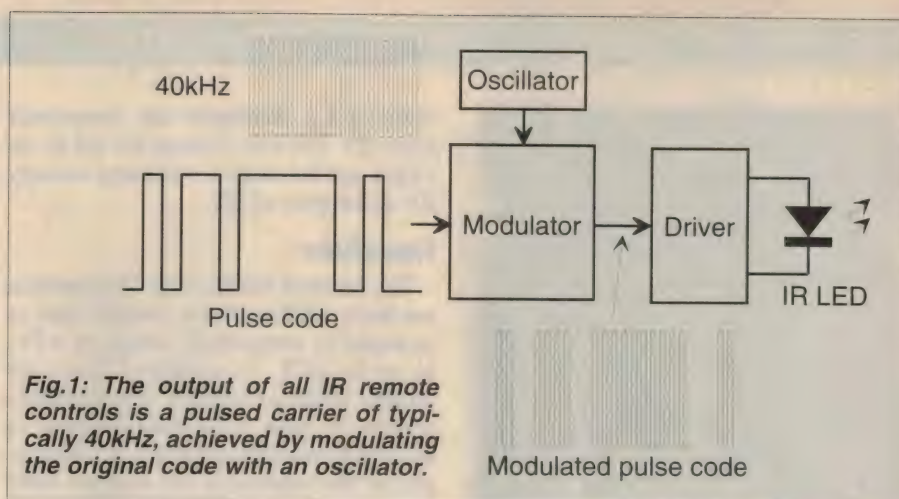

Fig.1: The output of all IR remote controls is a pulsed carrier of typically 40kHz, achieved by modulating the original code with an oscillator.
The operating principle is quite straightforward. The infrared (IR) output from the remote control handpiece is picked up by a photodiode in the transmitter. The IR output from any remote control unit is actually a series of pulses on a carrier of typically 40kHz, as shown in Fig.1. The carrier is essential to overcome the effects of other varying light sources, like fluorescent lights. This is achieved by tuning the IR receiver module in the equipment being controlled to 40kHz. This allows it to reject all other light sources, except the output from its remote control unit.